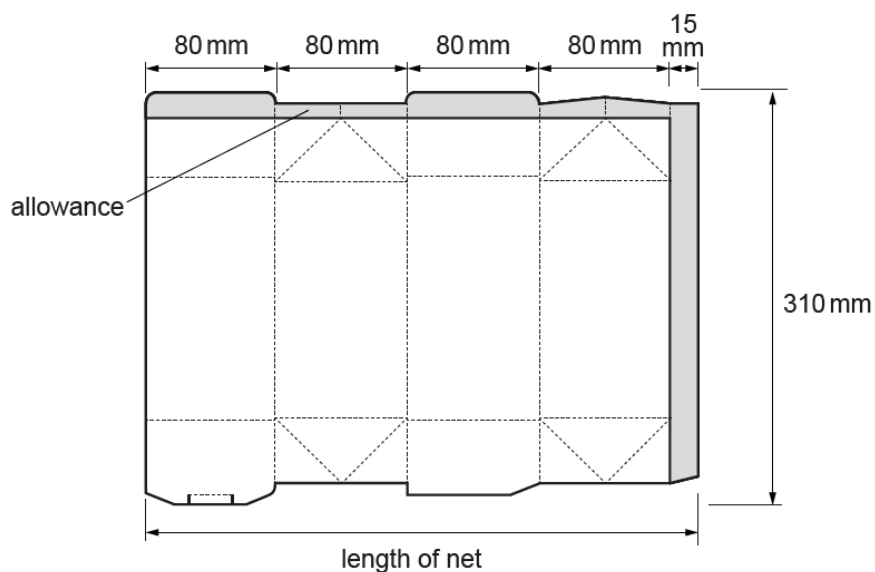

Fig. 2.2
The carton is made from one piece of card using the development (net) shown in Fig. 2.2. An allowance of 15 mm for glue tabs is shown shaded in grey.
- (ii) Calculate the area of card needed to make one carton. Use the dimensions shown in Fig. 2.2. Give your answer in mm^2 .